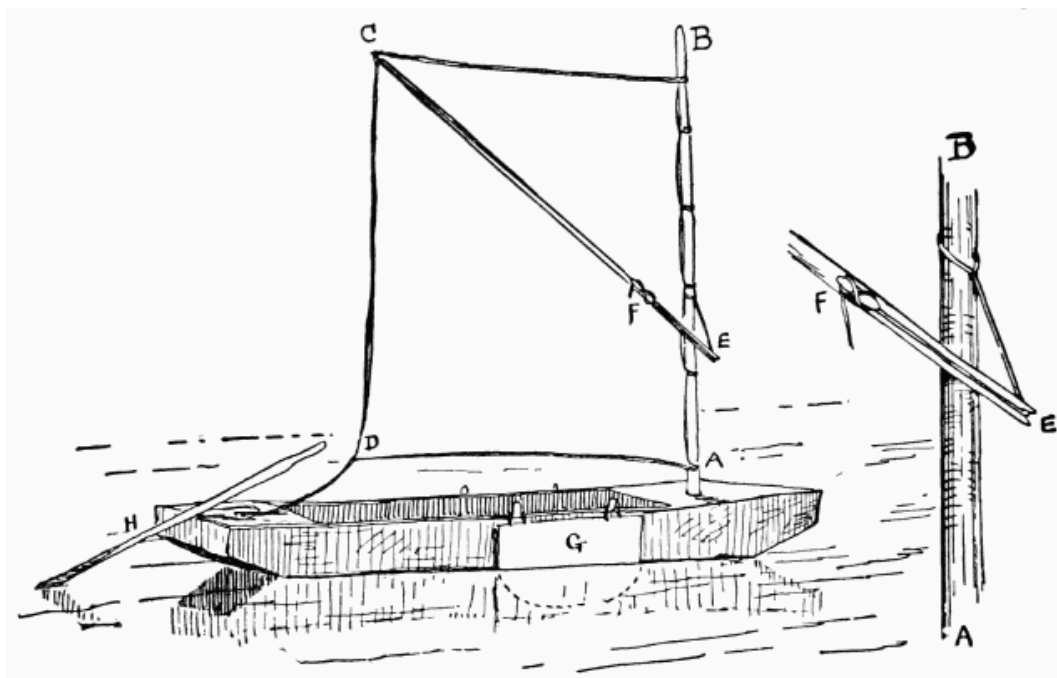
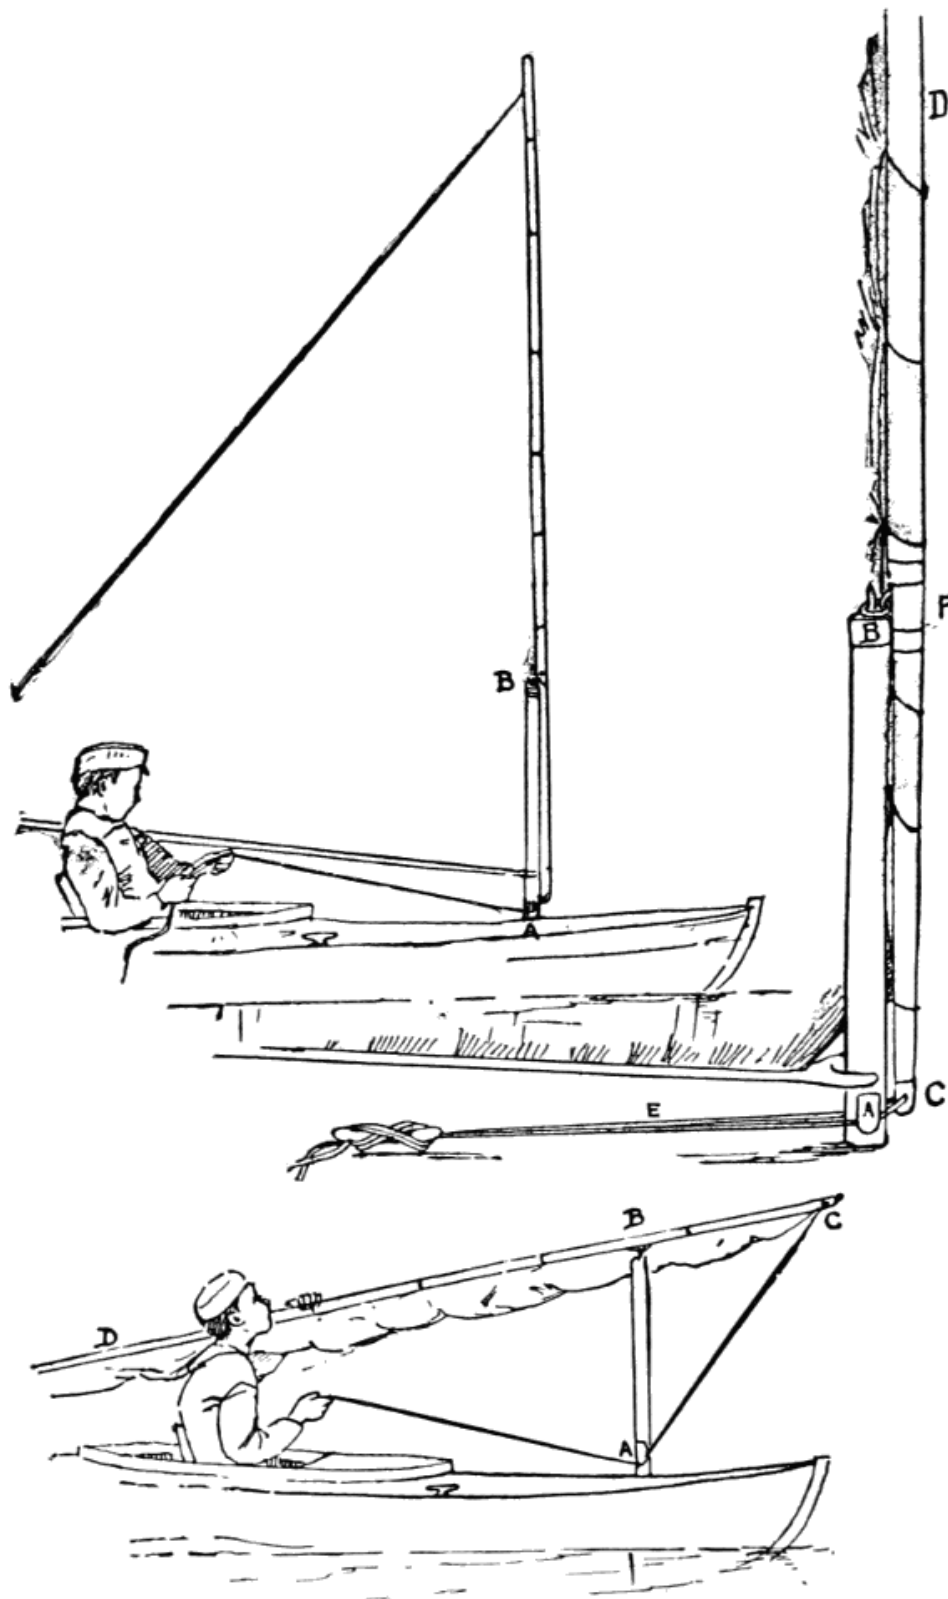
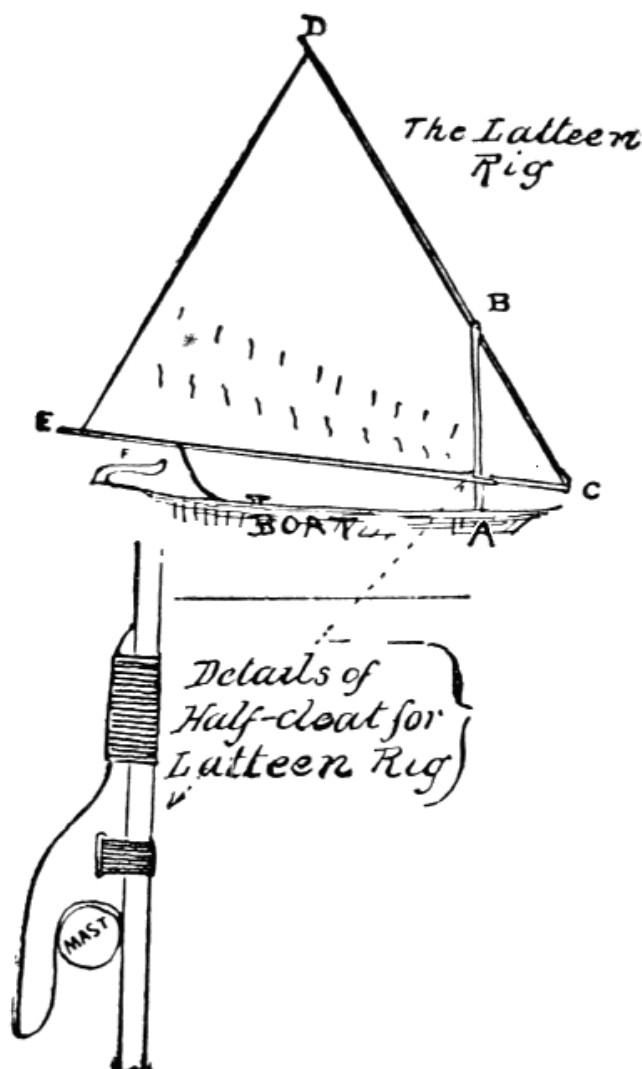

Fig. 143.—A simple rig.
Fig. 145.—A new device.
Fig. 146.—The latteen rig.
I will suppose that the reader has the use of a broad, flat-bottomed boat without any rudder. (See Fig. 143.) She cannot be made to work like a racing yacht under canvas, but lots of fun can be had out of her.
Lace the luff of the sail to the mast so that its lower edge will swing clear by a foot or so of the boat's sides. Make fast to the loop at D a stout line, ten or twelve feet long. This is called the "sheet," and gives control of the sail. The upper end of the sprit, C, E, is trimmed so that the loop at C will fit over it but not slip down. The lower end is simply notched to receive a short line called a "snotter," as shown in the detailed drawing at the right of the cut (Fig. 143). It will be readily understood that, when the sprit is pushed upward in the direction of C, the sail will stand spread out. The line is placed in the notch at E and pulled up until the sail sets properly, when it is made fast to a cleat or to a cross-piece at F. This device is in common use and has its advantages, but a simple loop for the foot of the sprit to rest in is more easily made and will do nearly as well. H is an oar for steering. Having thus described the simplest rig possible, we may turn our attention to more elegant and elaborate but not always preferable outfits.
Fig. 145 shows a device, published for the first time in the *St. Nicholas Magazine* for September, 1880, which enables the sailor to step and unstep his mast, and hoist or lower his sail without leaving his seat—a matter of great importance when the boat is light and tottlish, as in the case of that most beautiful of small craft, the modern canoe, where the
navigator sits habitually amidships. The lower mast (A, B, Fig. 145) stands about two and a half feet above the deck. It is fitted at the head with a metal ferrule and pin, and just above the deck with two half-cleats or other similar devices (A). The topmast (C, D) is fitted at F with a stout ring, and has double halyards (E) rove through or around its foot. The lower mast being in position (see lower part of Fig. 145), the canoeist desiring to make sail brings the boat's head to the wind, takes the topmast with the sail loosely furled in one hand and the halyards in the other. It is easy for him by raising this mast, without leaving his seat, to pass the halyards one on each side of the lower mast and let them fall into place close to the deck under the half-cleats at A. Then, holding the halyards taut enough to keep them in position, he will hook the topmast ring over the pin in the lower mast-head and haul away (see top part of Fig. 145).
is recommended only for boats which are "stiff"—not tottlish, that is. The fact that a considerable portion of the sail projects forward of the mast renders it awkward in case of a sudden shift of wind. Its most convenient form is shown in Fig. 146. The arrangement for shipping and unshipping the yard is precisely like that shown in Fig. 145—a short lower mast with a pin at the top and a ring fitted to the yard. It has a boom at the foot which is joined to the yard at C by means of a hook or a simple lashing, having sufficient play to allow the two spars to shut up together like a pair of dividers. The boom (C, E) has, where it meets the short lower mast, a half-cleat, or jaw, shown in detail at the bottom of the cut (Fig. 146), the circle representing a cross-section of the mast. This should be lashed to the boom, as screws or bolts would weaken it. To take in sail, the boatman brings the boat to the wind, seizes the boom and draws it toward him. This disengages it from the mast. He then shoves it forward, when the yard (C, D) falls of its own weight into his hands and can be at once lifted clear of the lower mast. To keep the sail flat, it is possible to arrange a collar on the lower mast so that the boom, when once in position, cannot slip upward and suffer the sail to bag.
Nothing has been said about reefing thus far, because small boats under the management of beginners should not be afloat in a "reefing breeze." Reefing is the operation of reducing the spread of sail when the wind becomes too fresh. If you will look at Fig. 146 you will see rows of short marks on the sail above the boom. These are "reef-points"—bits of line about a foot long passing through holes in the sail and knotted so that they will not slip. In reefing, the sail is lowered and that portion of it between the boom and the reef-points is gathered together, and the points are tied around both it and the boom. When the lower row of points is used it is a single reef. Both rows together are a double reef.
Make your first practical experiment *with a small sail and with the wind blowing toward the shore*. Row out a little way, and then sail in any direction in which you can make the boat go, straight back to shore if you can, with the sail out nearly at right angles with the boat. Then try running along shore with the sheet hauled in a little and the sail on the side nearest the shore. You will soon learn what your craft can do, and will probably find that she will make very little, if any, headway to windward. This is partly because she slides sidewise over the water. To prevent it you may use a "lee-board"—namely, a broad board hung over the side of the boat (G, Fig. 143). This must be held by stout lines, as the strain upon it is very heavy. It should be placed a little forward of the middle of the boat.
end of the tiller. When the handle of the oar (H, Fig. 143)—or the tiller (F, Fig. 146) if a rudder is used—is pushed to the right, the boat will turn to the left, and *vice versa*. The science of steering consists in knowing when to push and how much to push—very simple, you see, in the statement, but not always so easy in practice.